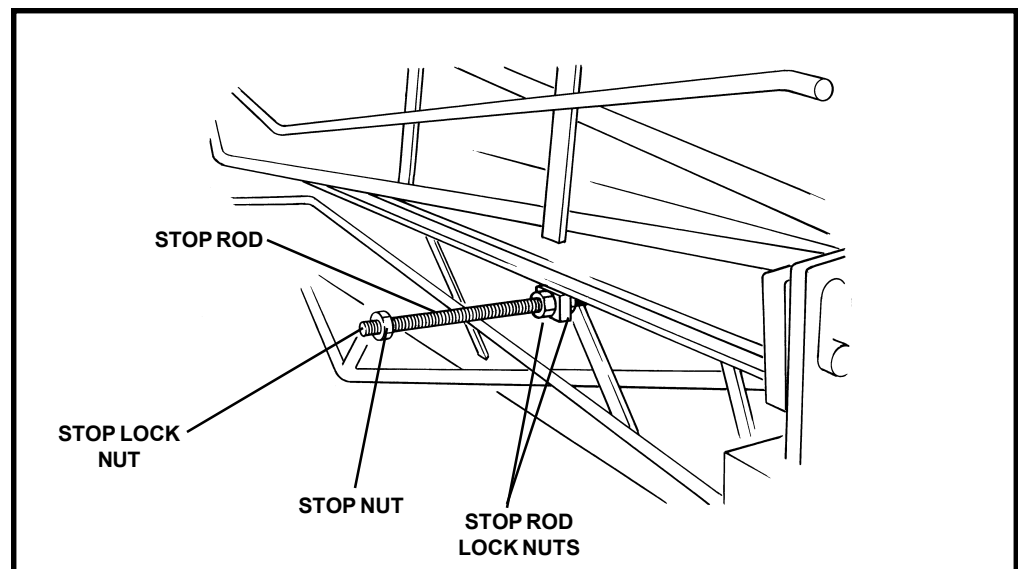

Figure 6. Installing and Adjusting the Optional Rear Material Stops.
1. At each end of the machine, insert a threaded stop rod. Secure the stop rod using the stop rod lock nuts (see Figure 6).
2. Adjust a stop nut on each stop rod to the desired position. Be sure that both stop nuts are the same distance from the front of the machine. (Angular bends not perpendicular to the material edges can be made by offsetting one stop nut from the other. This will reduce the overall width which can be bent.) (See Figure 6.)
3. Lock each stop nut in place using a stop lock nut (see Figure 6).